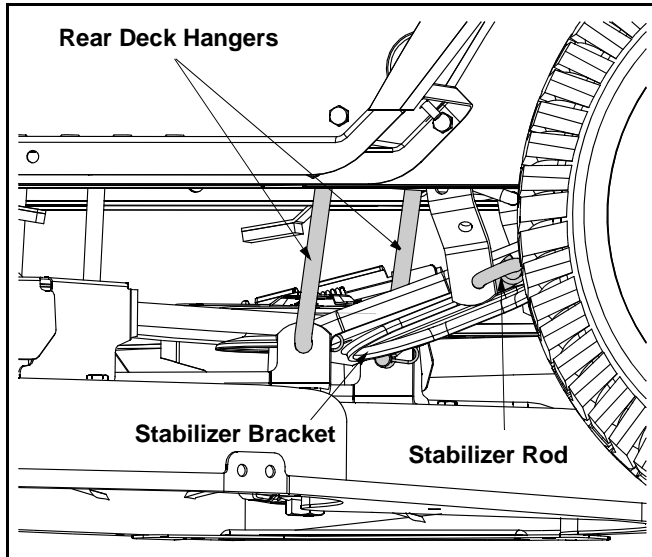

Figure 27
- Remove the hairpin clips which secure the rear deck hangers to the deck stabilizer bracket. See Figure 27. Retain the hairpin clips.
**NOTE:** The style and shape the stablizer bracket and stablizer rod vary. Yours may differ slightly from that shown in Figure 27.
**NOTE:** For normal service and maintenance, the deck stabilizer bracket doesn't need to be removed from the tractor. If removing the cutting deck in order to mount a Snow Thrower attachment, however, the stabilizer bracket must be removed. To do so, simply remove the hairpin clip which secures the stabilizer rod to the stabilizer bracket. See Figure 27.